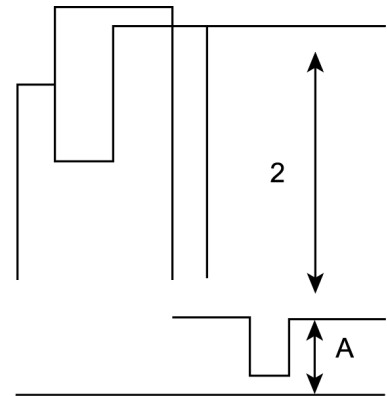

Fig. 5
3. Connect oscilloscope probe to TPL 1 (R OUT) with 10k Ω series resistor and confirm waveform as in Fig. 5 is (2) $2.7 \pm 0.4V$.